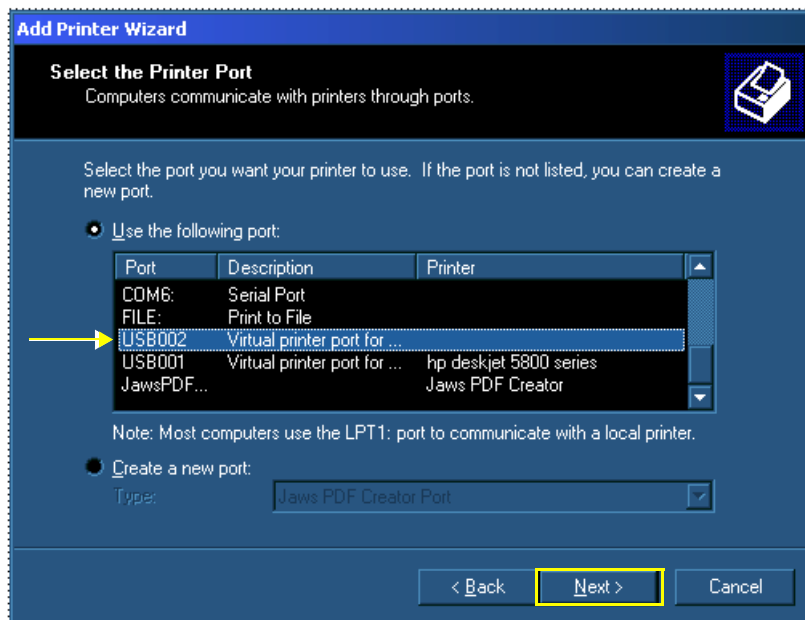

Figure 8-184 Choosing Available USB Port
12.) From the displayed list of available ports, choose one of the available USB ports, as shown in Figure 8-184.